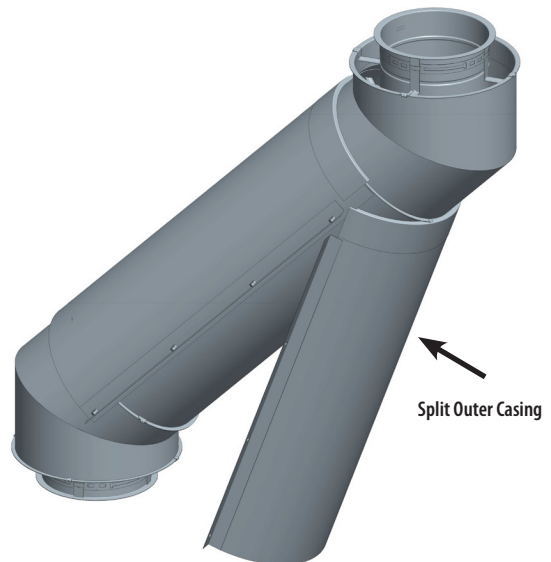

Figure 39 - Step 12- Install the Split Outer Casing
Step 11 - Install the split outer casing that covers from the outer wall of the inlet end section to the outer wall of the outlet end section. See **Figure 39**